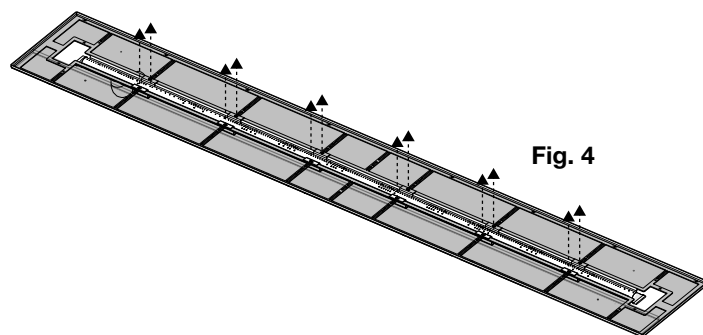

Fig. 4
- ☐ 7. Remove screws securing the old burner tube to the burner assembly (screw count varies by size of appliance) (**Fig. 4**).